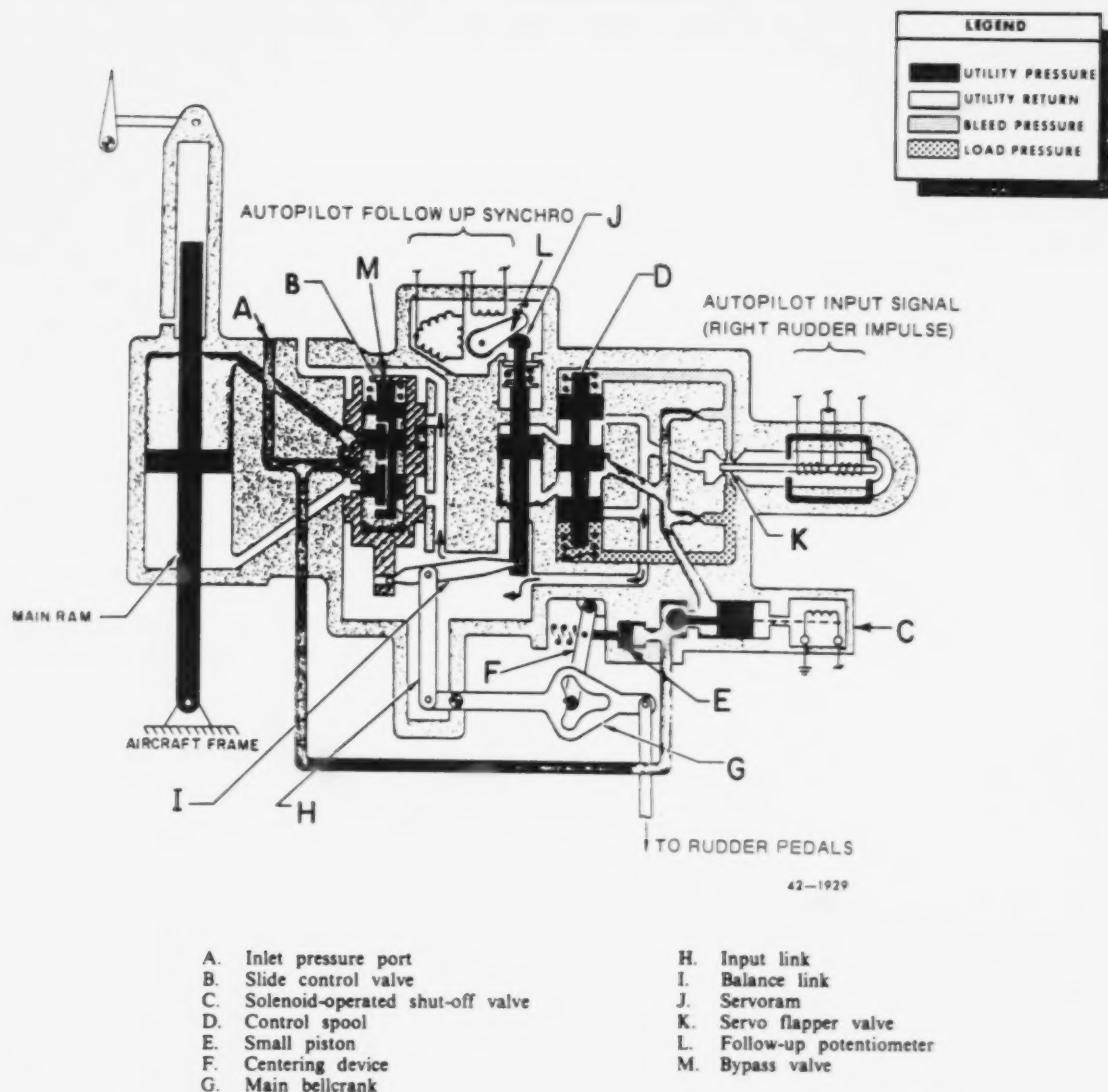

Figure 4-21. Power control cylinder.
Manual-hydraulic. This mode doesn't require any electrical power to the actuator. Refer to figure 4-21 as we cover the sequence of operation. Fluid enters the inlet port (A) and flows to the slide control valve (B). Inside the slide control valve is a bypass valve (M) which blocks off passages from each side of the actuator. Notice that the pressure applied has forced the bypass valve up, compressing the spring. We will talk more about this valve later on, when we get into the manual mode. In the meantime, the pressure will also flow to the solenoid-operated shutoff valve (C). This valve is spring-loaded to the closed position. In this position, it prevents fluid pressure from going to the flow control servo valve. Notice that just in front of the solenoid-operated shutoff valve is a small piston (E) which pushes the centering link (F) away from the main bellcrank (G) when pressure is applied to it. This lets the main bellcrank pivot when the push rod is moved. As the main bellcrank is positioned, it forces the pilot input link (H) to move up or down. The pilot input link is attached to the balance link (I), which in turn is connected to the autopilot servoram (J) and slide control valve (B). Because electrical power is not applied, the autopilot is not in use at this time. Therefore, the balance link (I) will position the slide control valve (B) to route fluid to either side of the actuator. Notice that the actuator piston is attached to the aircraft airframe. As a result, the actuator piston does not move; instead, the whole assembly body, valves and all, moves. With this type of setup, the slide control valve will automatically be repositioned to neutral when the desired travel has been achieved. This is the mechanical followup.
to the automatic flight control system. When the AFCS is turned on, it energizes the solenoid-operated shutoff valve (C) to the OPEN position. (See fig. 4-21.) This allows fluid to flow from the pressure port through the solenoid-operated shut-off valve to the flow control servovalve. If a signal is sent to the flow control servovalve, it positions the flapper valve (K) to restrict fluid in one part of the system. This routes fluid to the control spool (D) of the flow control servovalve. The control spool (D) will send fluid to either side of the autopilot servoram (J). Notice that the bottom part of the servoram (J) is connected to the balance link (I) and that the other end is used to position the followup potentiometer (L). As the servoram (J) moves up or down, it positions the slide control valve (B), which moves the main actuator up or down. As the servoram (J) moves, it also repositions the followup potentiometer (L), which sends a signal to reposition the flow control servovalve. This is the electrical followup.
Manual. In the event of loss of hydraulic pressure, this particular actuator assembly (fig. 4-21) is designed to let the pilot manually move the flight control surfaces. Of course, without hydraulic pressure the pilot has to apply more effort to move the controls. This can be done because, when hydraulic pressure is not present, the main bellcrank (G) is locked to the body of the actuator by a spring-loaded centering device (F). Also the bypass valve (M) inside the slide control valve (B) is forced down by the spring, thus allowing fluid to flow freely from one side of the main actuator to the other. Now, when the pilot moves the push rod, the main bellcrank cannot pivot as it could when hydraulic pressure was available. Since the main bellcrank cannot pivot, the whole actuator assembly must be moved. Remember that the main actuator piston rod is attached to the aircraft structure. So, when the whole actuator assembly moves, fluid from one side of the main actuator must flow from one side of the actuator through the bypass valve (M) to the other side of the actuator. Without this movement of fluid, you would have a fluid lock, and the flight control would not be able to move. As you can see, with the bypass valve installed, the flight controls can move, but it requires more effort on the part of the pilot to move them.